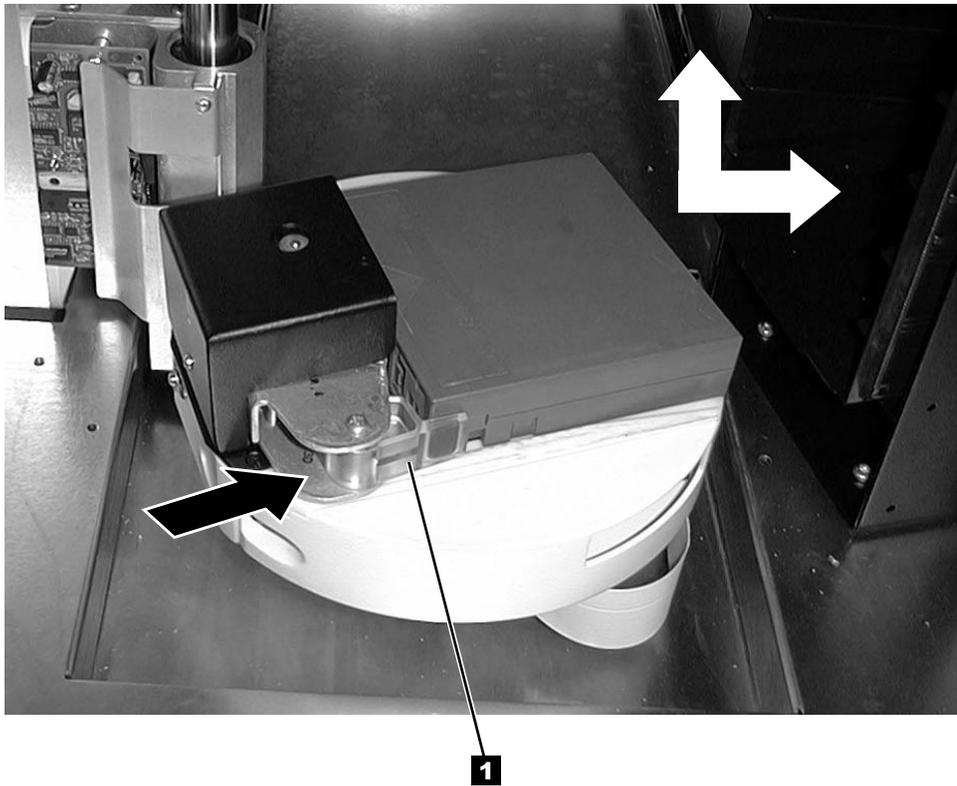

Figure 7-1. Cartridge Removal from Picker Assembly
See Figure 7-1.
4. The grip fingers are spring-loaded. Open them by applying pressure to the back of one of the fingers **1** as seen in Figure 7-1. Remove the cartridge when the fingers are open.